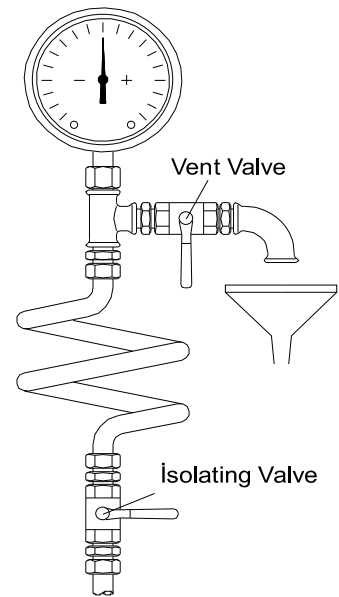

Fig. 6
- Pressure and vacuum gauges must be properly anchored and connected at the measuring points located on the pipes approximately 2D close to the flanges with approximately 8 mm diameter tubing with pig tail configuration to lessen pressure fluctuation. For safety purposes isolating and vent valves should be fitted before the gauges (**Fig. 6**).